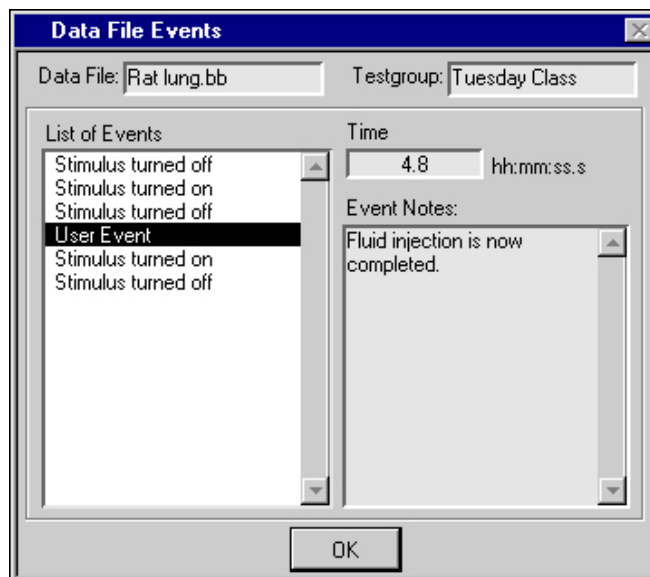

Figure 2-16. Data File Events Dialog Box
- **Events**—Clicking on this button displays the Data File Events dialog box shown in Figure 2-16, where you can view file events for the selected file.
You click on the **Events** button in the Data File Summary dialog box to open the Data File Events dialog box shown in Figure 2-16.